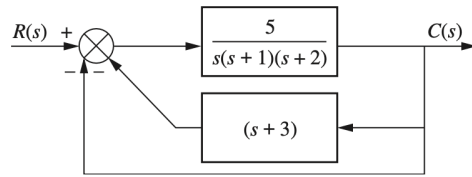

FIGURE P7.4
2. For the system shown in Figure P7.4.